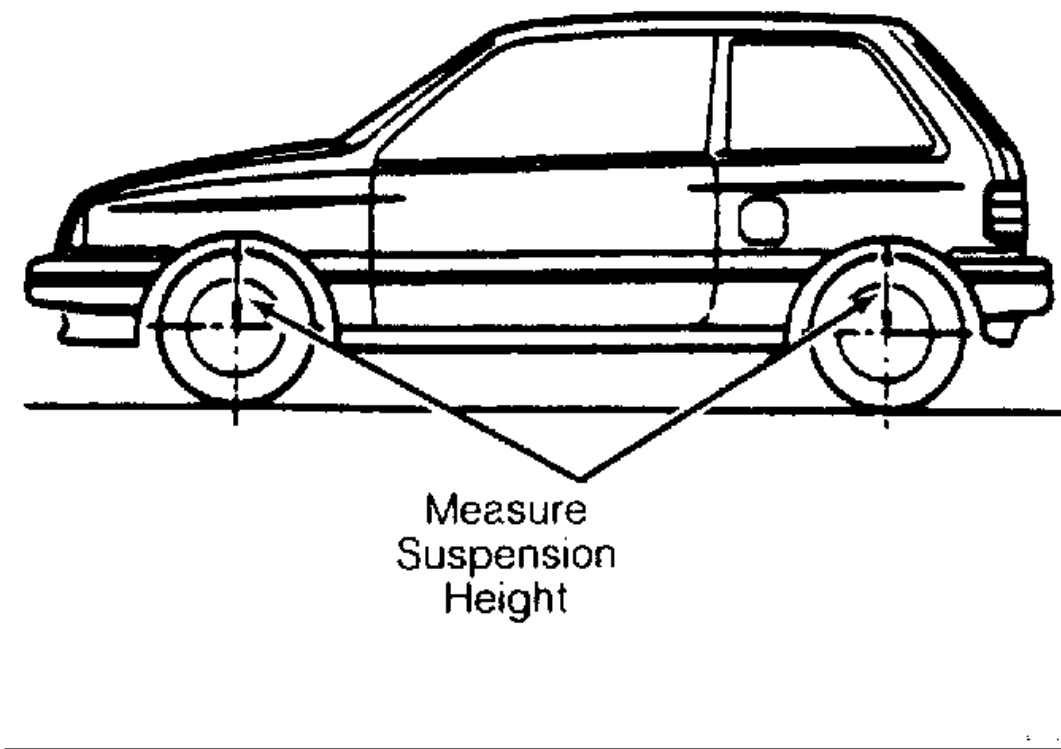

Fig. 1: Measuring Riding Height
- 3. Measure height of fender cutout rim above wheel center at all 4 wheels. Compare left and right side measurements at both front and rear. See Fig. 1 . On Festiva, side-to-side variation should not exceed 0.4" (10 mm). These measurements should not be made from floor, but from center of wheel only, as unequal tire wear could cause a variance.